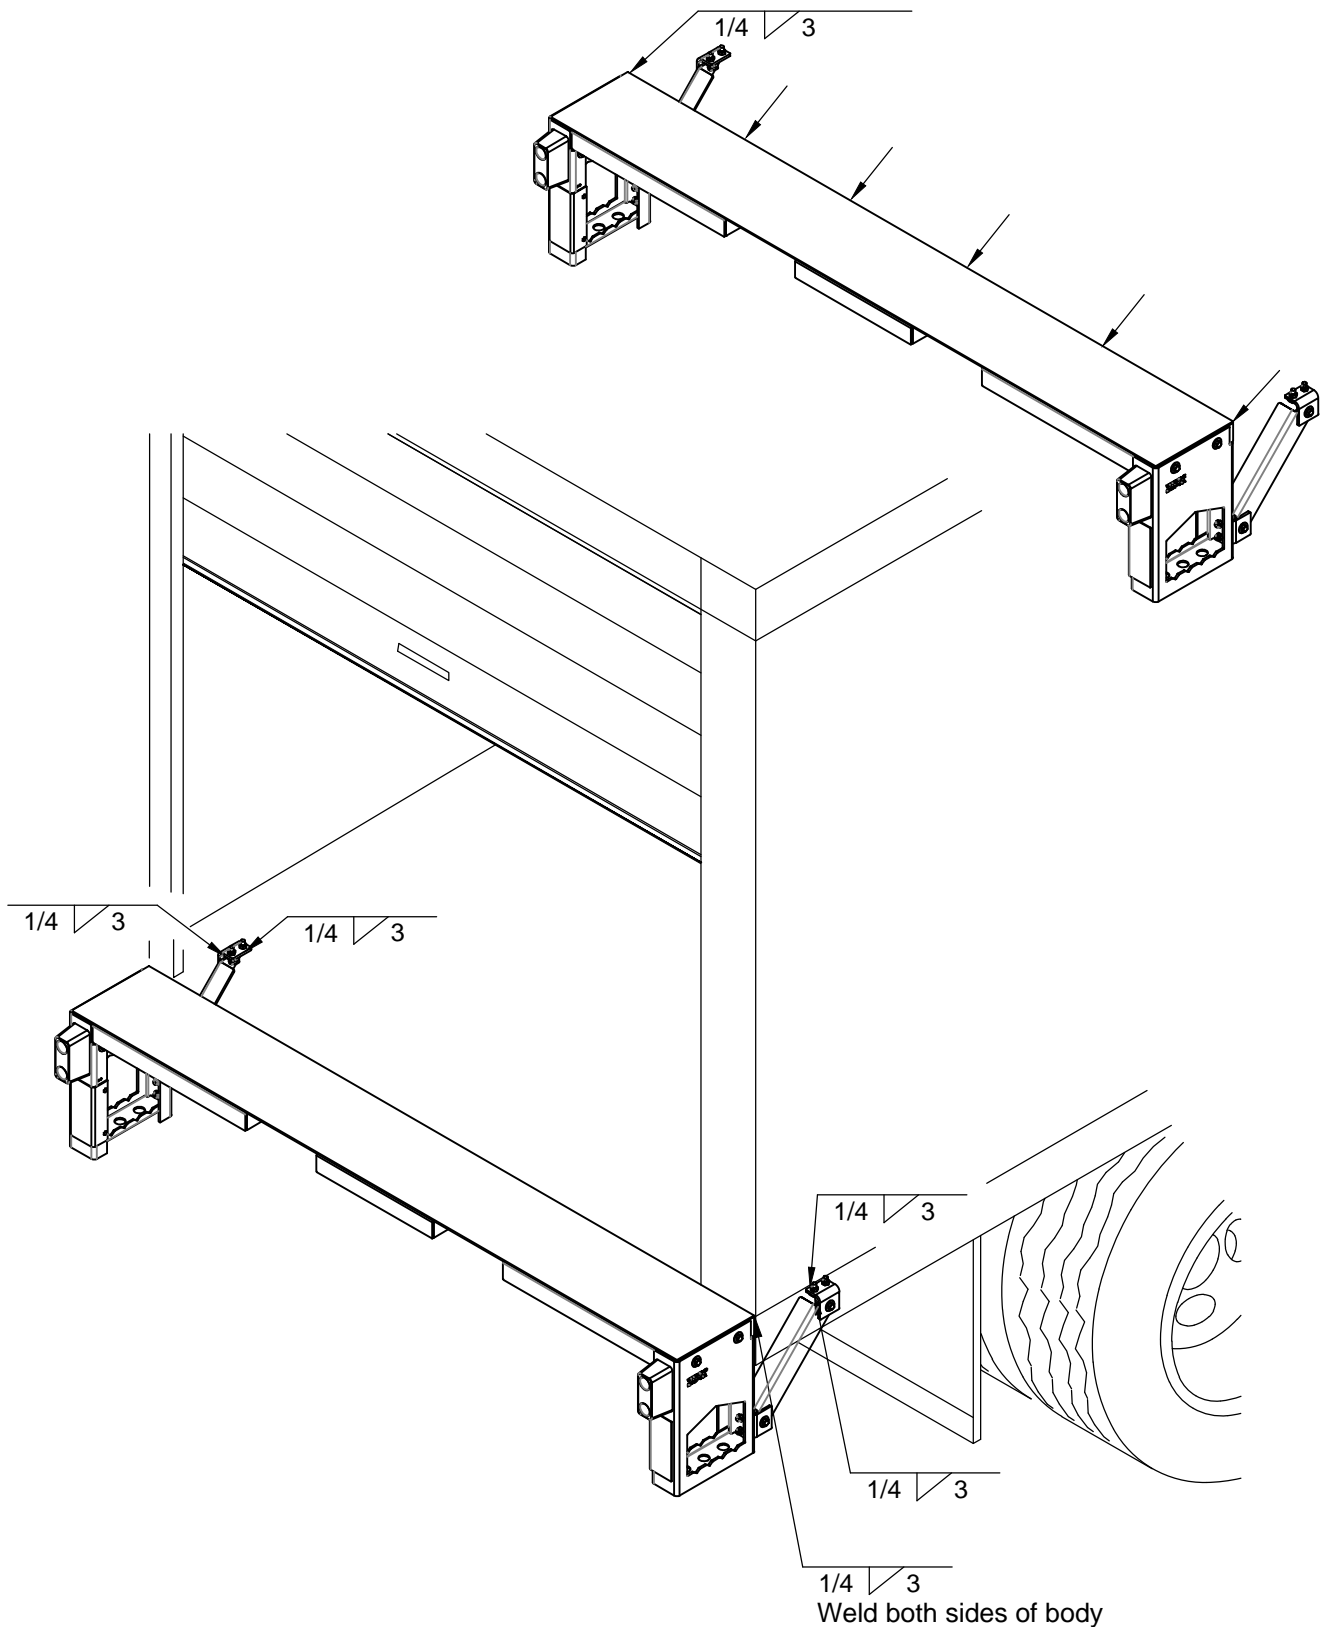

Figure 26: Bed Extension - Finish Weld Locations.
Material may need to be added to the body to provide a location to install the top ends of the braces (Figure 26).
- 3. Finish Weld** the bed extension with 3" long 1/4" fillet welds every 18" across width (Figure 26).
1. **Weld** bed extension braces into position (Figure 26) .